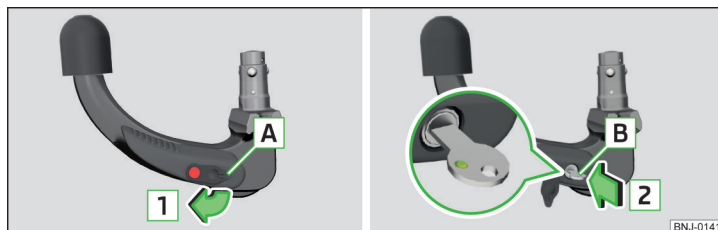

Fig. 151 Remove cap from the lock / insert key into the lock
- Remove the cover **A** from the lock in the direction of the arrow **1** » Fig. 151.